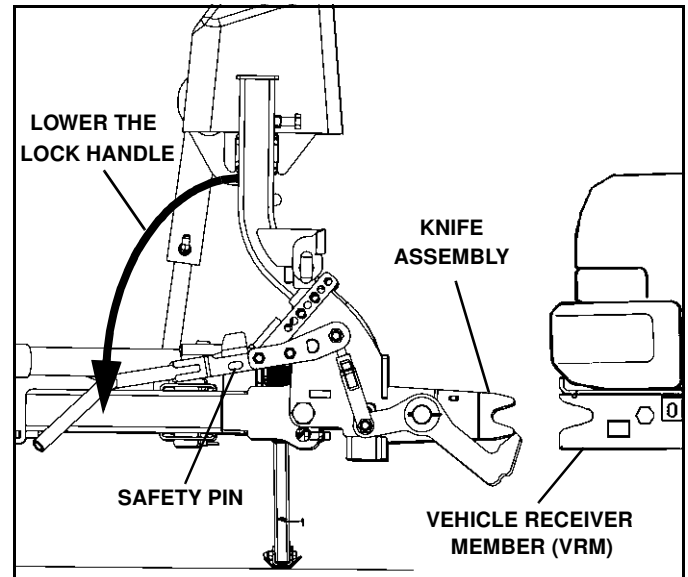

Figure 1-23
29. Release the lock handle safety pin and lower the lock handle fully. (See Figure 1-23).
31. Drive truck up to plow and engage the plow knife assembly with the VRM on the truck. (See Figure 1-23).